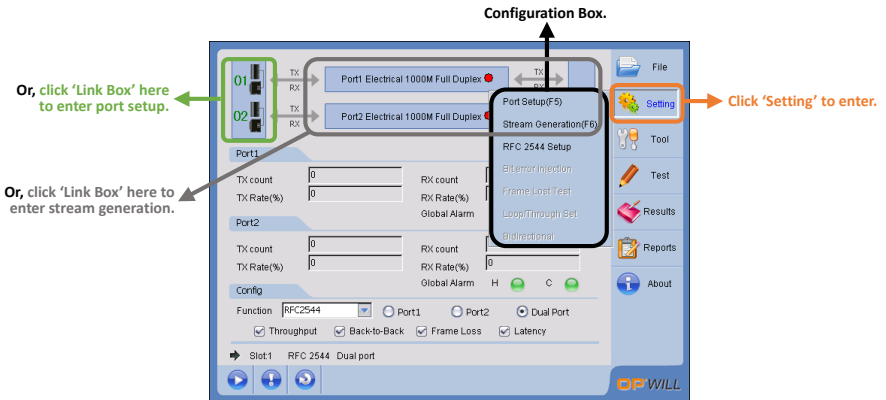

Figure 3.1.5 Configuration Box
- Or, click 'Link Box' to enter port setup, see Figure 3.1.5;